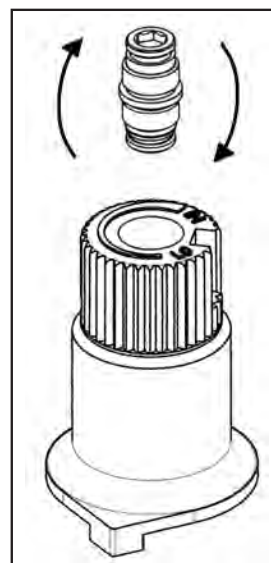

Figure 16: Flip valve screw.
- Flip the screw (refer to Figure 16).